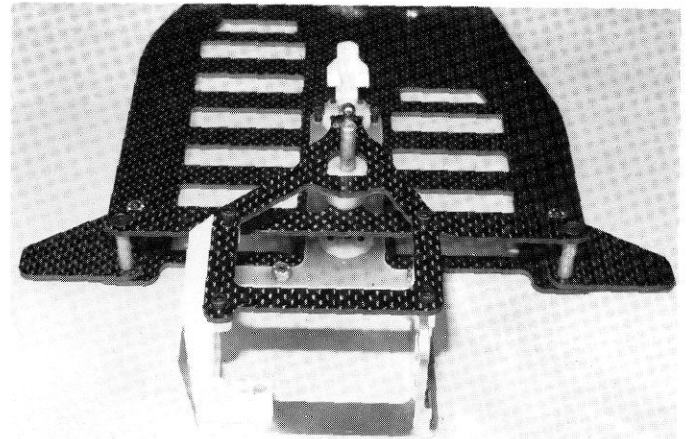

**Fig. 35**
**Figs. 35 & 36**— The arrow is pointing to the upper bracket where the dampner washers ride. *Racer's Tip:* The Expert Class racers will take some #600 grit wet or dry sandpaper and sand all the edges smooth here, so that the dampner washers slide freely over the bracket. Take the #6270 steel ball from Bag #4 and mount it into the #8318 graphite upper bracket with the nut.